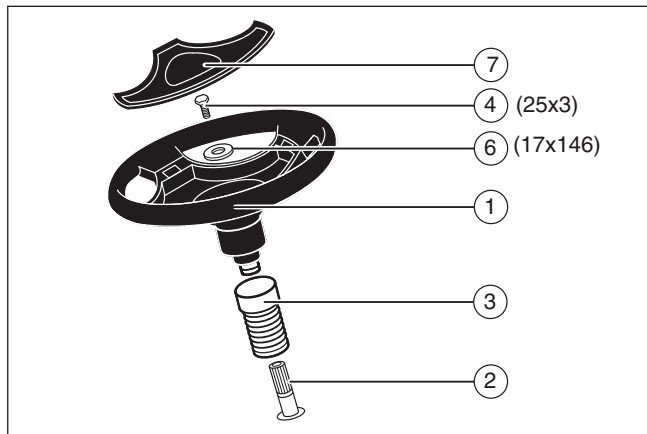

Figure 3
2. Slide the cover (3) over the steering post (2) (see **Figure 3**). Make sure the collar of the cover is on top.
3. Slide the steering wheel (1) onto the steering post (2) (see **Figure 3**).
4. Attach the steering wheel to the steering post with screw (4) and washer (6).
5. Attach the cover (3) to the steering wheel.
6. Some models have an optional insert (7) in the parts bag. Attach the insert to the center of the steering wheel.